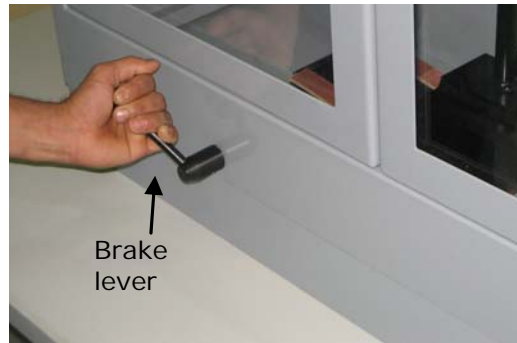

Fig.7.11: Using the brake lever to stop the pendulum.
- After the specimen breaks and the pendulum complete its initial swing, apply the friction brake to stop the pendulum and open the cabinet as shown in Fig.7.11.